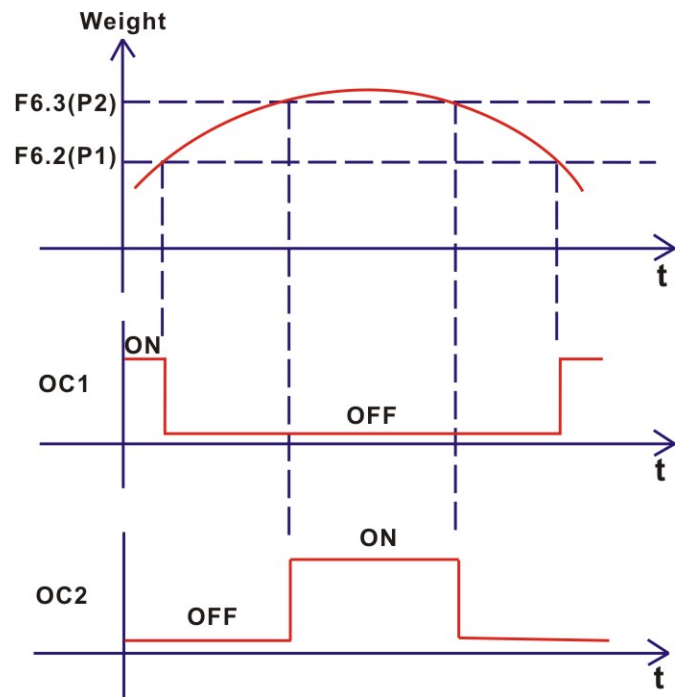

Fig.6-3 Relay Output- Upper and lower limits
- Upper and lower limits (F6.1=1): If weight value is lower than the value set in F6.2, OC1 is on; if weight value is higher than or equal the value set in F6.3, OC1 is off. If weight value is lower than value set in F6.3, OC2 is off, otherwise, OC2 is on. See Fig.6-3.